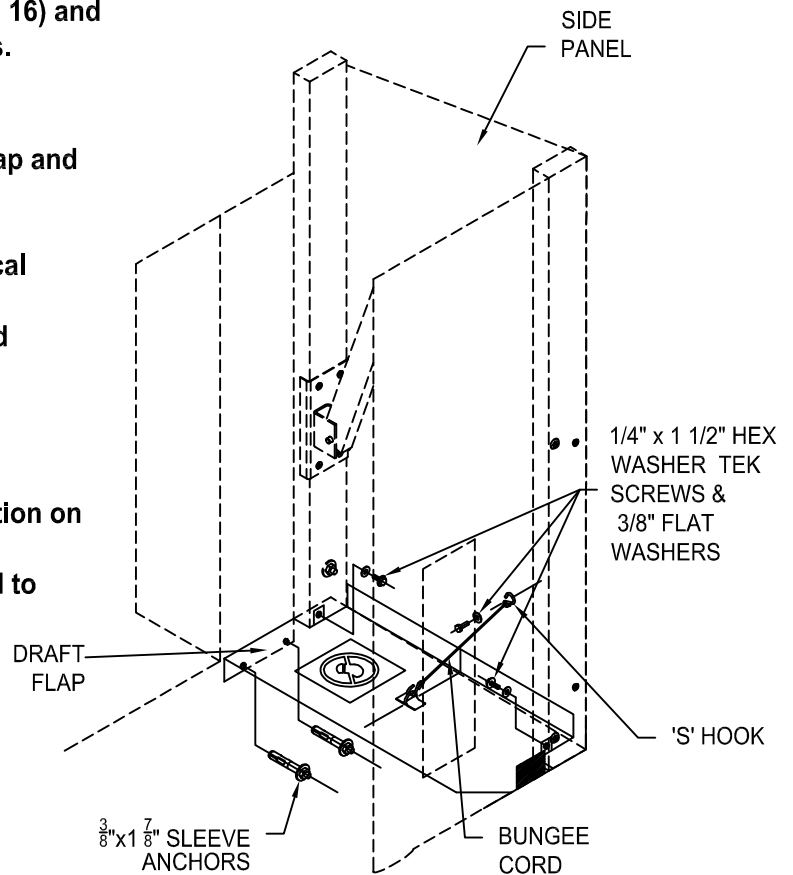

FIG. 16
* Place draft flap into place (as shown in FIG. 16) and use grommeted holes to mark hole locations.